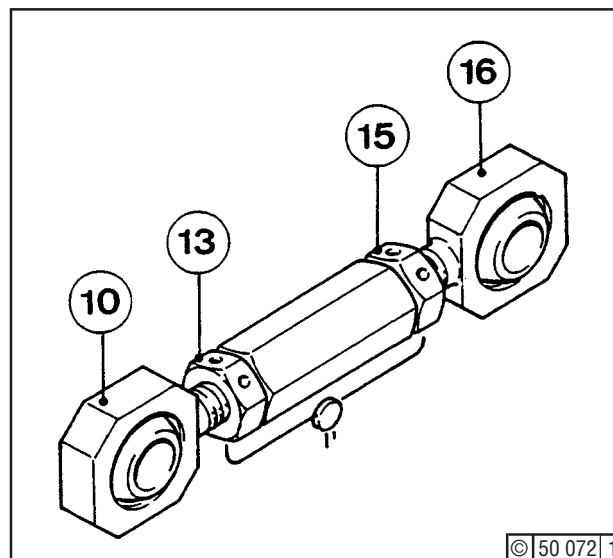

Fig. 4
Loosen hex. nuts (13) and (15) - Fig. 4 - and turn out link heads (10) and (16).